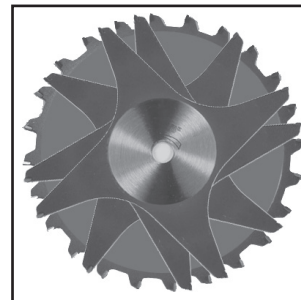

FIG. 68
1. The blades and chippers are heavily swaged and must be arranged so that the teeth do not hit each other during rotation. The heavy portion of the chippers should fall in the gullets of the outside blades (Fig. 68).